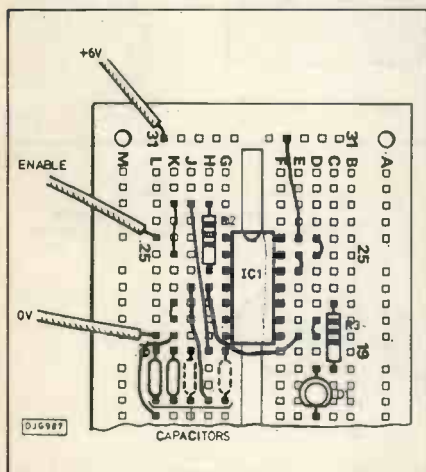

Fig. 3 Breadboard layout of monostable circuit in Fig. 1.
1. Connect a monostable circuit on a breadboard, as in Fig. 3. We have provided an area below the ic where you can plug in up to four capacitors in parallel. Begin with two capacitors, each 470nF as shown, giving a total capacitance of 940nF. R3 has a resistance of 180 ohms. Instead of the push-button S1 of Fig. 1, we have a flying lead, which can be touched to the 0V line as required. Note that the fourth gate of the ic has its inputs (pins 12 and 13) connected to 6V. This is so that we obey the rule stated last month, that cmos inputs must never be left unconnected. Instead of using D1 and R3 to indicate the output, you can use the logic probe described last month. Remember the other rules about handling cmos, given last month.
7. Now try the effect of altering the *resistance*. Have two capacitors plugged in, as at the start in Fig. 3. Change the resistance for a 1M5 resistor. Repeat step 4. The resistance is about half the original value. What is the effect on pulse length of halving the resistance?